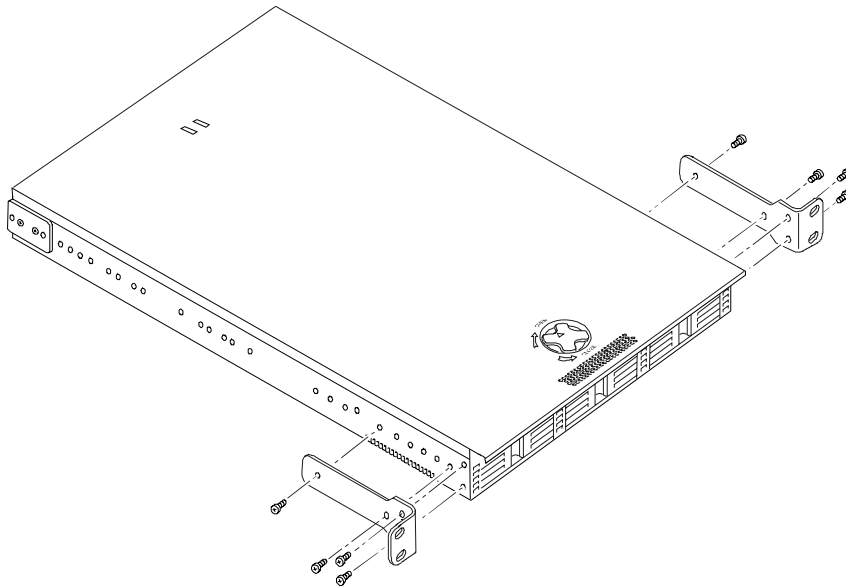

Figure 7-4. Mounting Flush Mount Brackets
6. Mount the two flush mount brackets on the Netserver chassis using the four screws provided for each one. See Figure 7-4.